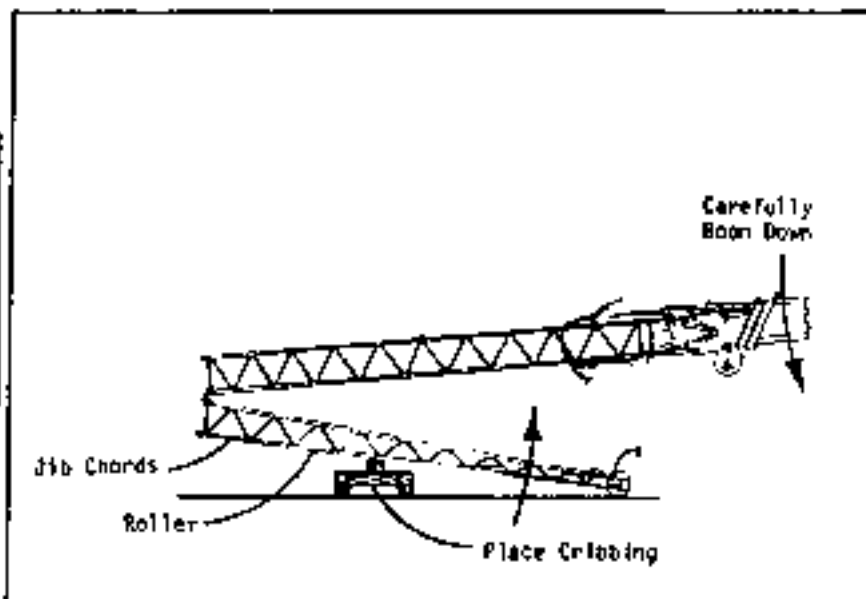

Fig. 4-33
Step 10: Place cribbing adjacent to the roller as in Fig. 4-33.